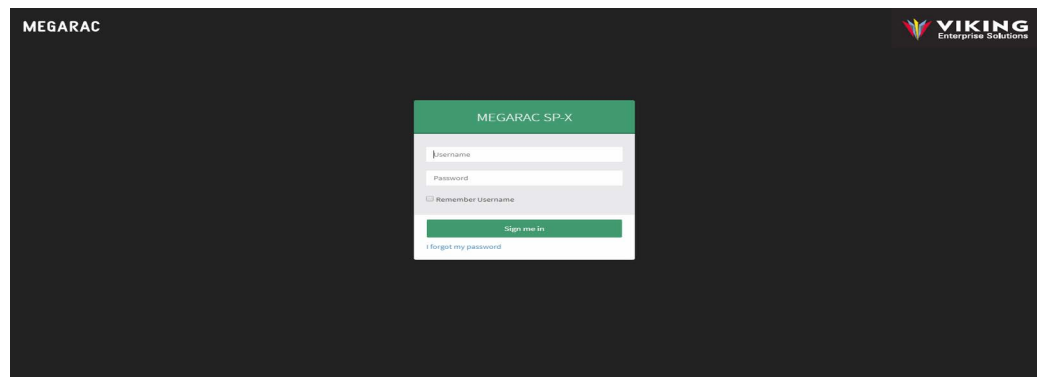

Figure 5.4 BMC WebUI login
2. The BMC WebUI login screen displays as shown in Figure 5.4.